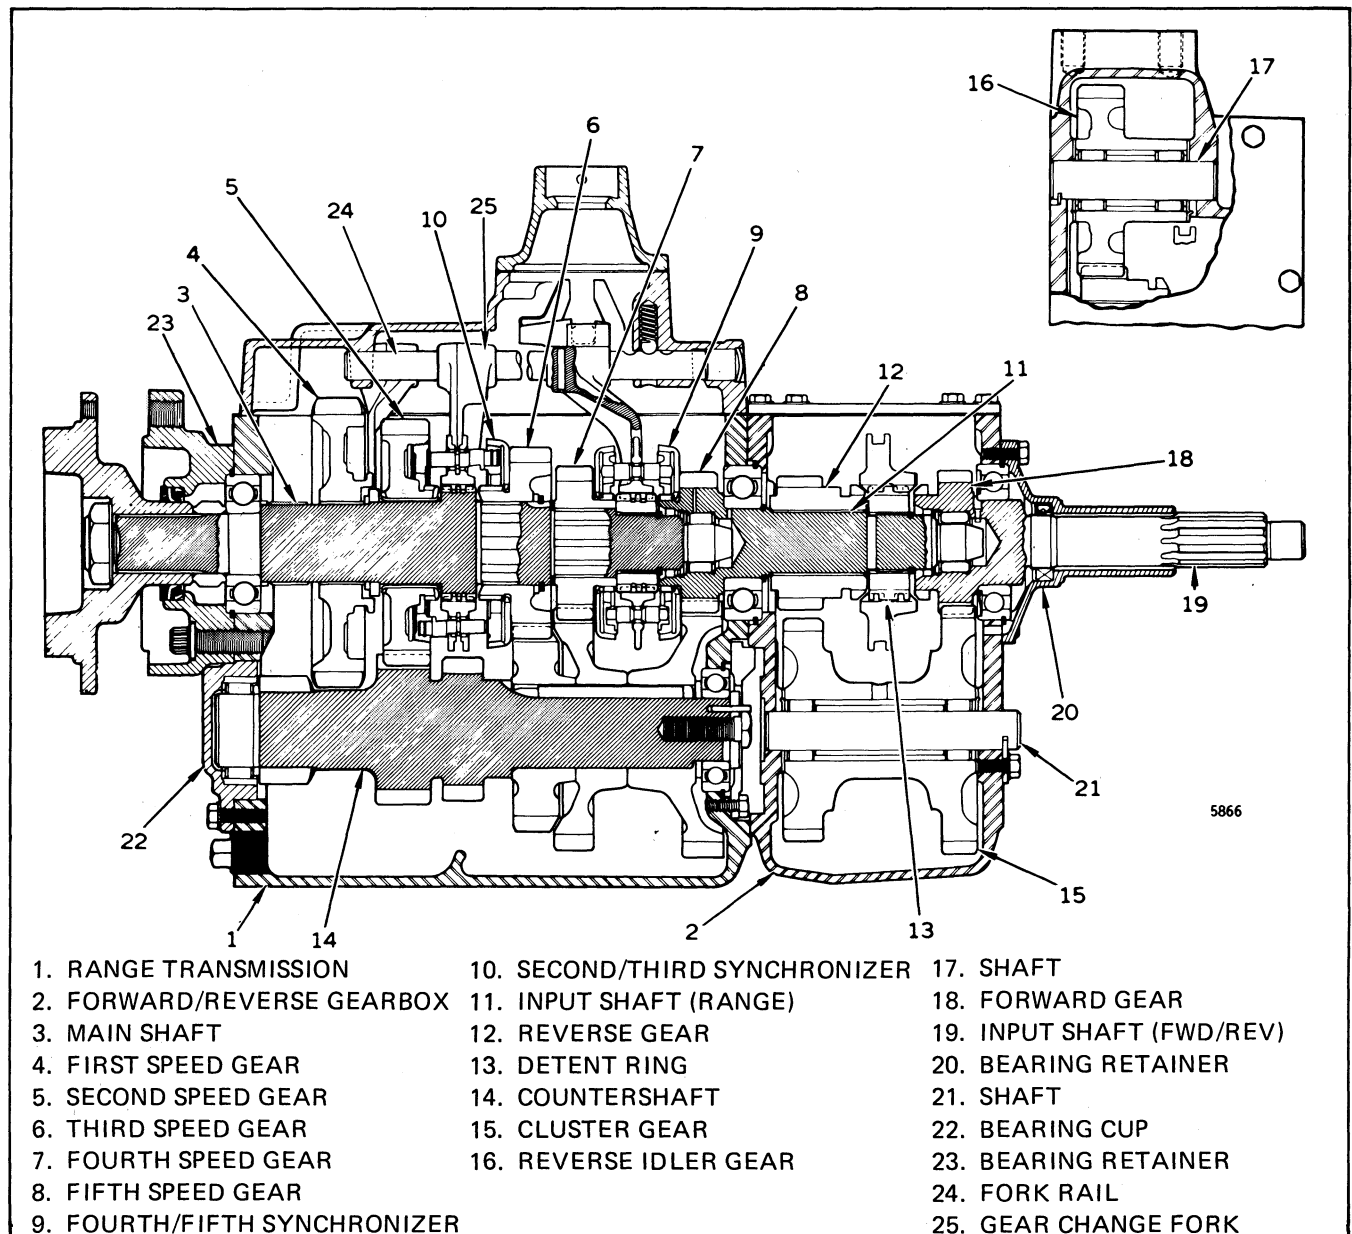

FIGURE 1. TRANSMISSION
DESCRIPTION AND OPERATION (See Figure 1)
STEP 10. See Figure 1 and disassemble the main shaft and input shaft. Remove the snap rings and the gears and synchronizers from the shaft.